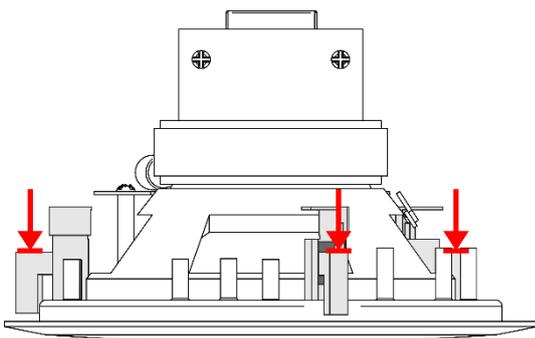

Fig. 04
- 06) Push the **quick-turn mounting screws (05)** on all **3 mounting clamps (04)** towards the back of the **grill (03)**, as shown on Fig. 04. The grill will come off.